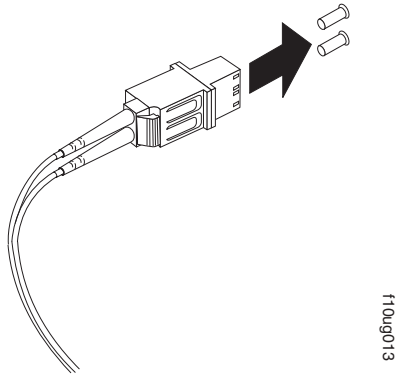

Figure 46. Removing the LC-SC cable adapter protective caps
3. Remove the two protective caps from the LC connector end of the LC-SC cable adapter as shown in Figure 46. Save the protective caps for future use.